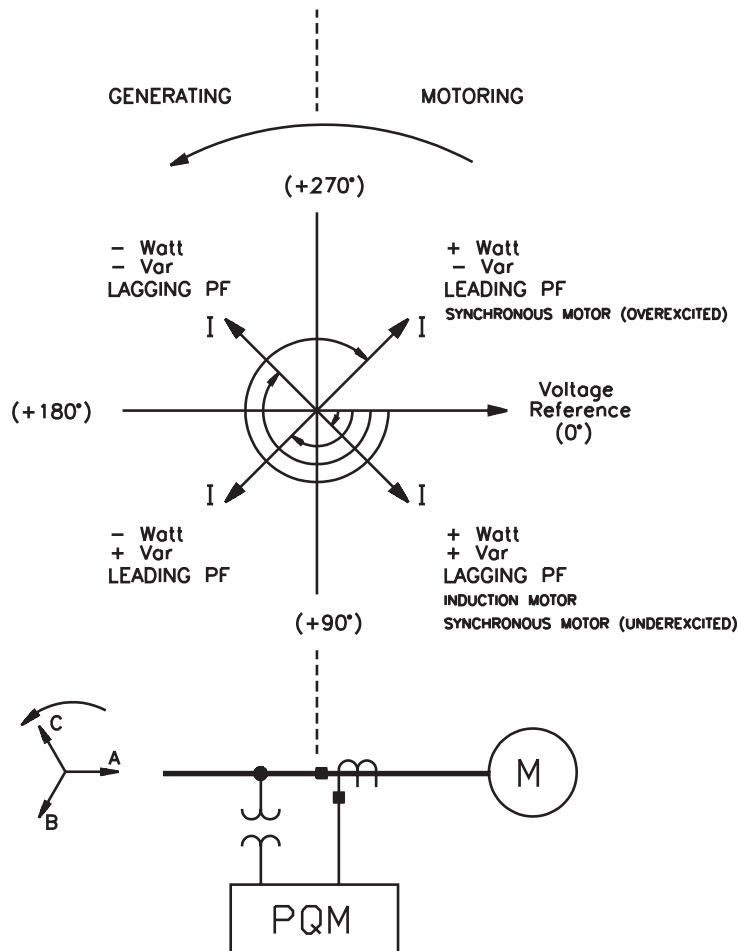

Figure 5-6: POWER MEASUREMENT CONVENTIONS
**THREE PHASE/A/B/C REAL POWER:** The total RMS three phase real power as well as the individual phase A/B/C real power is displayed in these messages. The phase A/B/C real power messages will be displayed only for a WYE or 3 WIRE DIRECT connected system. The PQM shows direction of flow by displaying the signed value of kW. Refer to Figure 5.6 for the convention used to describe power direction.
**THREE PHASE/A/B/C REACTIVE POWER:** The total RMS three phase reactive power as well as the individual phase A/B/C reactive power is displayed in these messages. The phase A/B/C reactive power messages will be displayed only for a WYE or 3 WIRE DIRECT connected system. The PQM shows direction of flow by displaying the signed value of kvar. Refer to Figure 5.6 for the convention used to describe power direction.